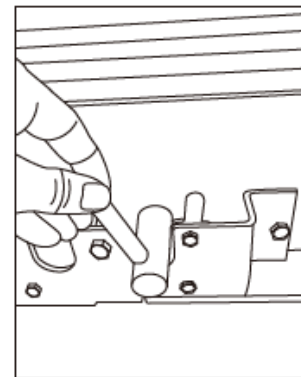
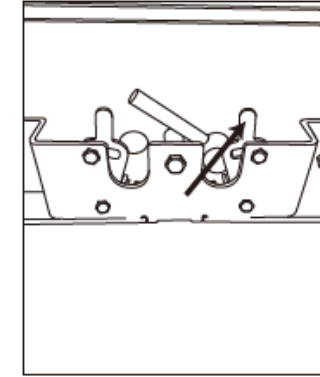

Fig 5
Fig 6
7. Slide Reel Lock Pin (4) towards the reel to lock into place (Fig 5). If rib on the reel obstructs the complete insertion of the Reel Lock Pin (4), remove Reel Lock Pin (4) and insert into other pinning location to the left or right. Pin retainers are spring loaded and will have to be pulled to the side to insert the Reel Locking Pin (4) (Fig 6).